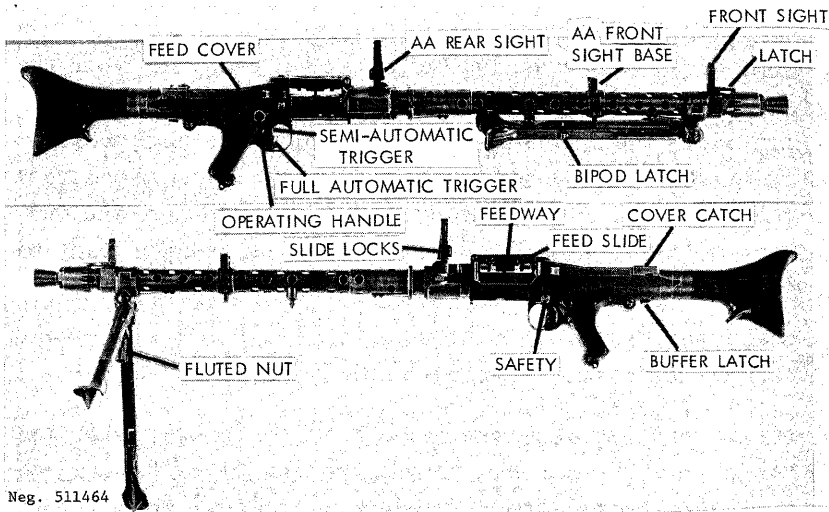

Figure 165. MG34 light machinegun.
a. The MG34 (fig 165) was developed in Germany in the 1930's as a general purpose machinegun. It could be used as a light, heavy, antiaircraft, or tank machinegun. This weapon is notable for its extremely high cyclic rate of fire and its fast, simple, barrel change. The air-cooled, belt-fed, recoil-operated MG34 is a closely fitted, intricately machined weapon that requires exacting care and cleaning to keep it operating. The high rate of fire requires a nice touch on the trigger to limit bursts to 8 or 10 rounds.
b. There are several ways to load the MG34. The preferred method is to press the cover catch (fig 165) forward and lift the
cover. Place the belt in the feedway (fig 165), feeding in from the left with open side of the links down and the first cartridge positioned in the lengthwise slot in the feed tray. Make certain that the safety (fig 165) is rotated forward, pull the operating handle (fig 165) to the rear, and thrust it fully forward. Push the feed slide (fig 165) to the left and close the cover; strike the rear of the cover with the hand to insure that the cover is latched.
e. Swing the front and rear sights to an upright position, squeeze the latch (fig 165) in the bipod legs, and swing the bipod forward. The height of the bipod can be adjusted by turning the fluted nut between the bipod legs; this controls the spread of the legs. Set the rear sight for range by pressing the slide locks, and move the slide until its upper edge is aligned with the number that corresponds to the range in hundreds of meters.
a. To disassemble the weapon, clear the gun (para 199h), but do not fold the bipod or close the cover. Press the buffer latch (fig 165) and turn the butt counterclockwise until it springs free of the receiver. **CAUTION: A strong driving spring is released.** Pull the driving spring out of the rear of the receiver if necessary. Hold a hand over the rear of the receiver and pull the operating handle rearward. This will move the bolt to the rear so that it can be grasped and removed.